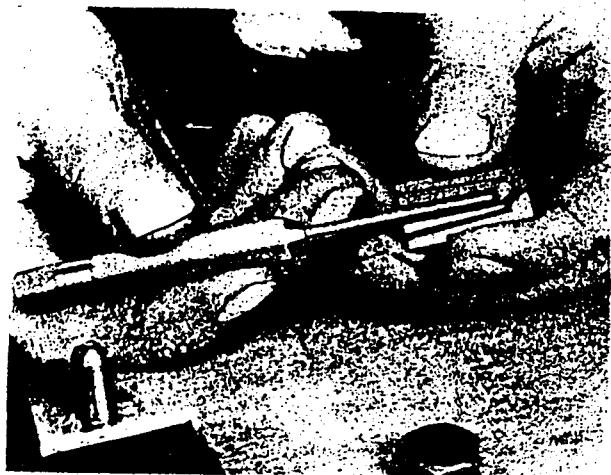

FIG 128.
3. Insert the special groove scraper (ET.071) until its nose locates in the fuel reservoir, as shown in Fig. 128. Press hard against the side of the cavity and rotate the nozzle to clear all carbon deposits from this area.